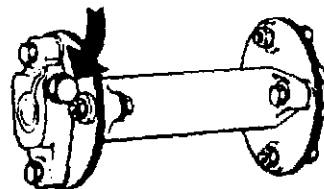

Fig. 5
8. Adjust the injection angle if necessary. On 71 and 121 series the shaft can be turned after the clamp bolts have been loosened, see fig. 5.